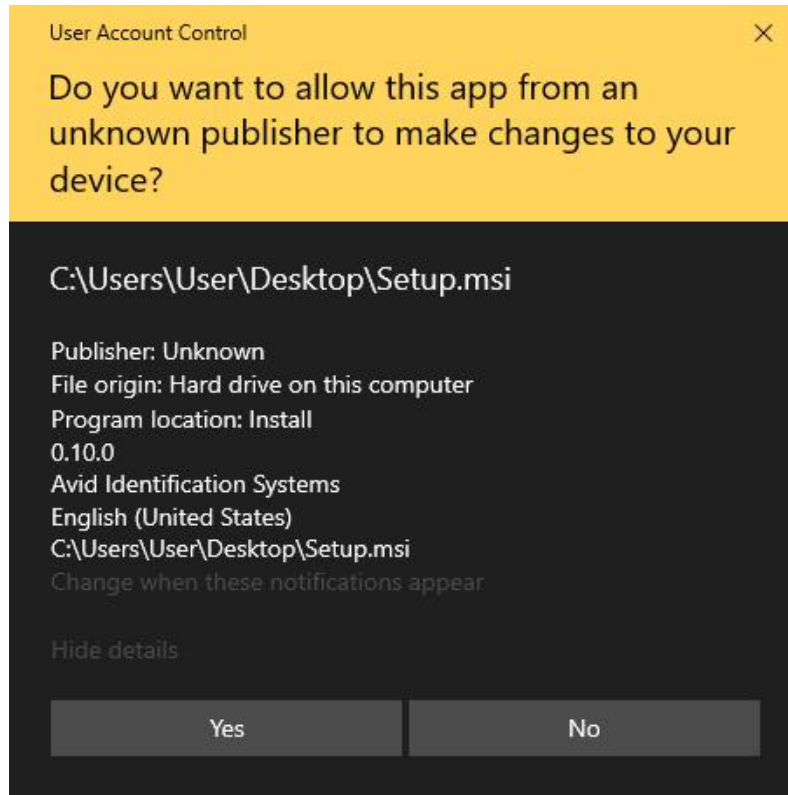

Figure 14: *User access control window.*
4. A User Access Control dialog similar to the one shown in Figure 14 may appear to warn about the installation process. Select "Yes" to continue.